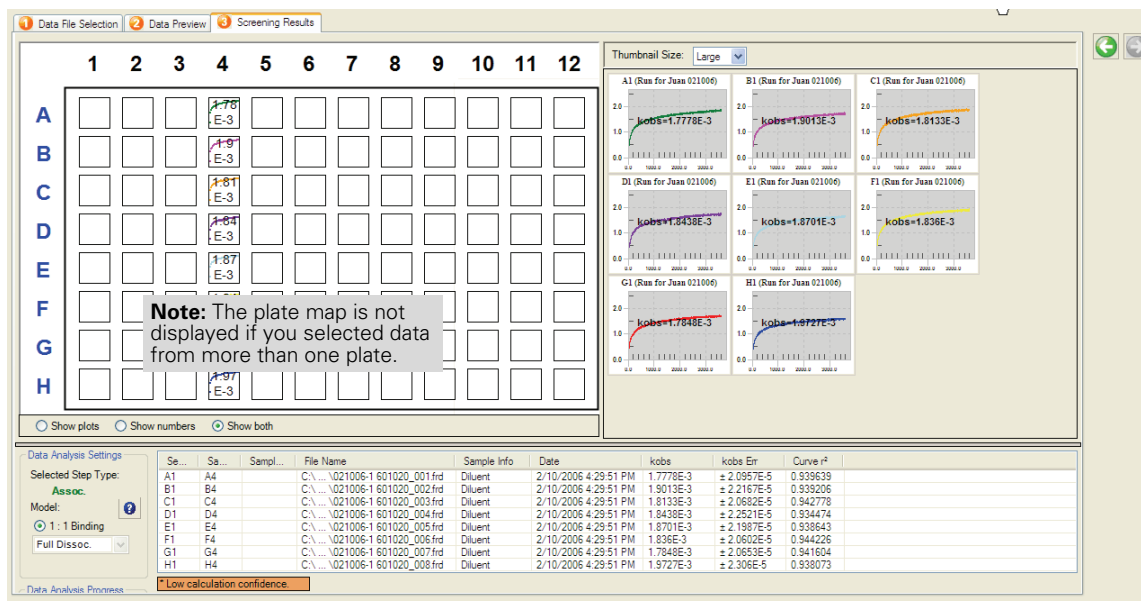

Figure 6.11 Screening Results tab
- The Octet software computes the kinetic constant (k_d or k_{obs}), depending on the step type selected (Figure 6.11).